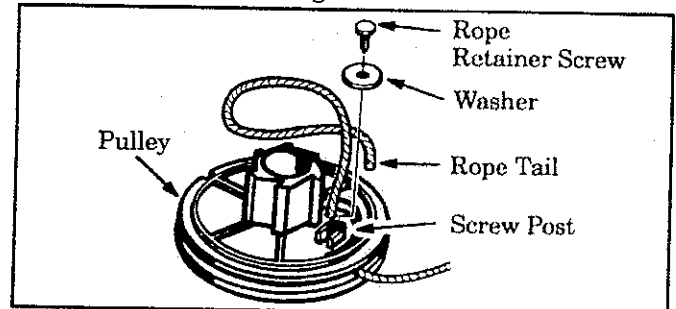
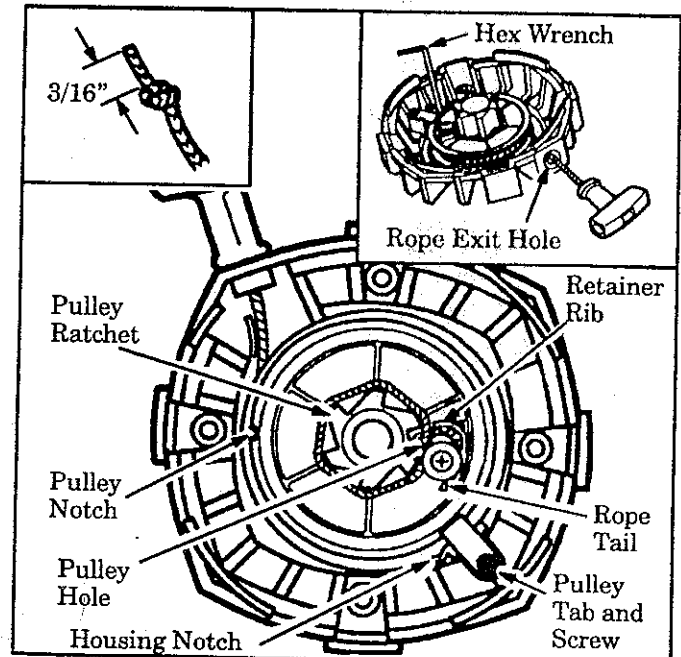

Figure 33
Figure 34
10. Remove the rope retainer screw and remove any remaining rope. Figure 33.
11. Hold pulley housing as shown in Figure 34. Hand turn the pulley clockwise as far as it will go.
12. Turn the pulley counterclockwise until the pulley notch is aligned with the housing notch next to the pulley tab and screw. Figure 34.
14. Insert hex wrench into hole formed by notches to hold pulley in position. Figure 34 (inset-right).
18. Insert one end of the rope through the handle and secure with a knot. Leave a 3/16" pigtail behind the knot. Figure 34 (inset-left).
19. Insert the other end of the rope through the rope exit hole into the inside of the housing, into the pulley and up through the pulley hole. Figure 34.
20. Wrap the rope counterclockwise around the pulley ratchet and tuck loose end under the rope at the pulley hole. Figures 33 & 34. Leave a 1" tail laying flat on top of the pulley between the retainer rib and the retainer screw/post. Figure 34.
21. Reinstall the rope retainer screw into the screw post. Figure 33. Tighten until the washer is snug.